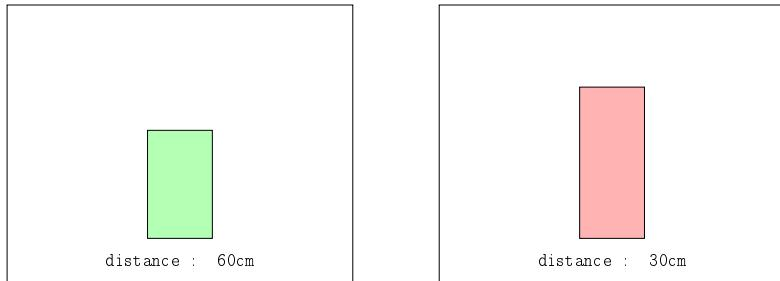

Figure 3: display example: sensor returns a long distance at left and a shorter at right
The distance to the obstacle is given by the duration of the **Echo** pulse. We use the **EXTI** peripheral to detect rising/falling edges, and a timer (**TIM7**) as a stopwatch to get the pulse width. The measure is stored in a global variable (figure 3).
**Question 4** Use the text and graphic functions of the TFT display to make a user interface as shown in figure 3. The bargraphs gets higher when the distance to the obstacle gets shorter. You can use colors.